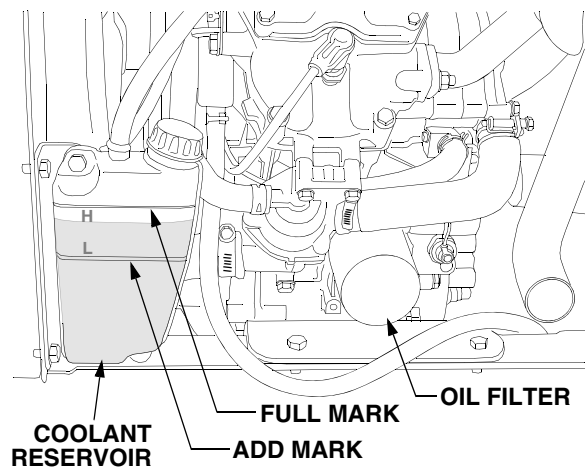

Figure 56
- Remove the filter by turning it counterclockwise using an automotive type filter wrench to loosen. See Figure 56.
- Raise the tractor hood and check the coolant level in the overflow reservoir on the *left* side of the engine. Refer to Figure 56.